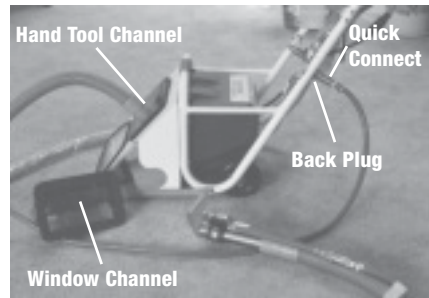

Figure 28: Hand Tool Attachment
- A. Remove window channel and replace with hand tool channel (figure 28).
- C. Snap the red pressure hose into the back plug (figure 28).